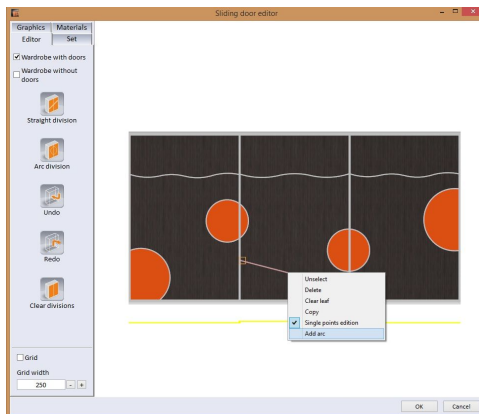

Fig. 131 – Editing door divisions – changing straight division into an arc one
- while working in the **'Sliding door editor'** (available under the fifth icon in the **'Options'** tab in the main module menu), you can edit divisions you added to particular door leaves, f. e. to change a straight division into an arc one, to obtain effect presented below (Fig. 131) – using option **'Add arc'**;